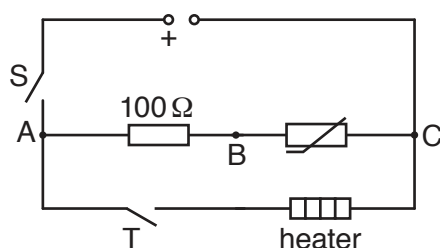

Fig. 4.3
4. The  $100\ \Omega$  fixed resistor (e.g. RS component 707-7587) is part of a circuit shown in Fig. 4.3 which must be set up by the supervisor.
At the changeover the supervisor must ensure that the apparatus is returned to the arrangement shown in Fig. 4.3. The heater and thermistor assembly should remain inside the ball of Blu Tack. However, it should be disconnected from the circuit and replaced by an identical assembly, also encased in Blu Tack that is at room temperature. The original assembly should be placed away from candidates so that it has time to cool down to room temperature so that it can be used in later experiments. This means that a spare set of the heater and thermistor assembly will be required.